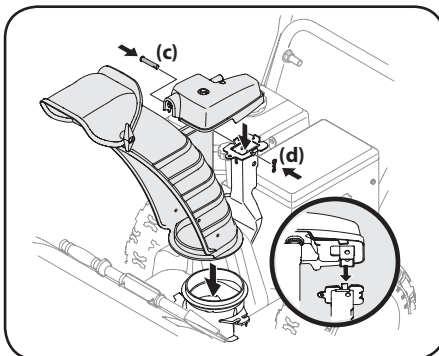

Figure 2-31
2. Place chute assembly onto chute base and secure chute control assembly to chute support bracket with clevis pin (c) and cotter pin (d) removed in Step 1. See Figure 2-31.